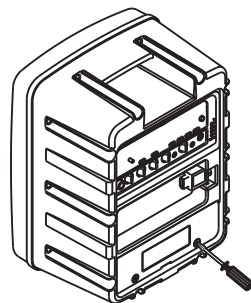

Fig. 37
(E) Carefully slide the battery back into the compartment slot. Insert back the two screws back in place securely, Fig. 37.